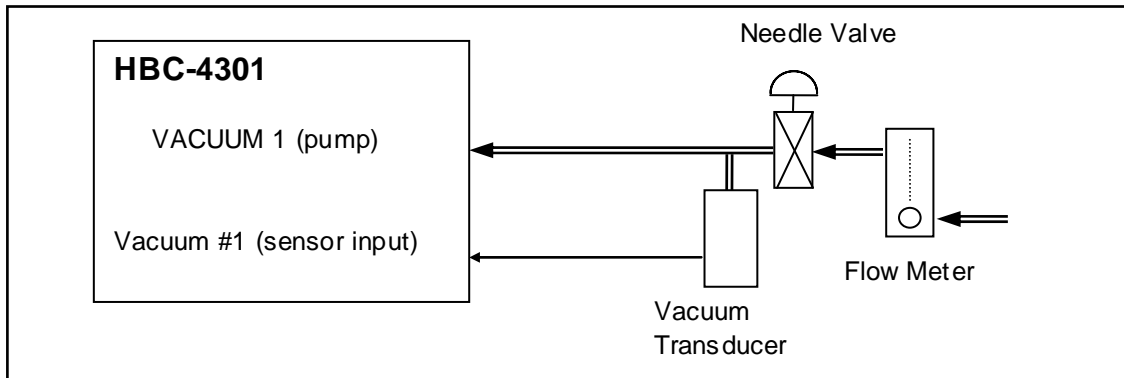

Figure 5: Vacuum Pump 1 Pumping Rate Test
3. Release the needle valve as shown in figure 5 to allow between 0.5 and 1.0 l/min vacuum flow.